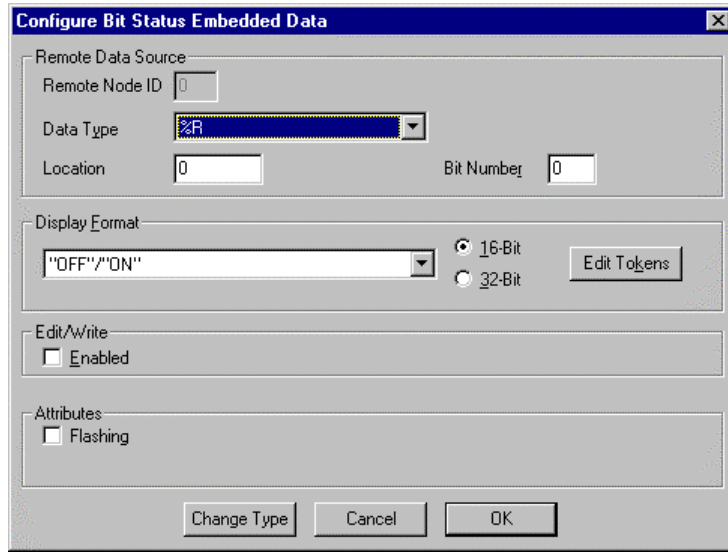

Figure 7.8 – Configure Embedded Data Box
3. On the third line, type "Q1:". Click on the Embed Icon. Select **Bit Status** from **Type**; discrete output (in this example %Q) from **Data Type**; **Location 1**; leave **Token Pair** as "**OFF**"/"**ON**" and click **Edit Enable**. Click **OK**. See Figure 7.8.
On the OS, press the DOWN key to get to the Discrete Output page (as in Figure 7.8). Press the PAUSE key the toggle Q0: ON by pressing the UP key and ENTER key. Press the PAUSE key until nothing is highlighted (three times).